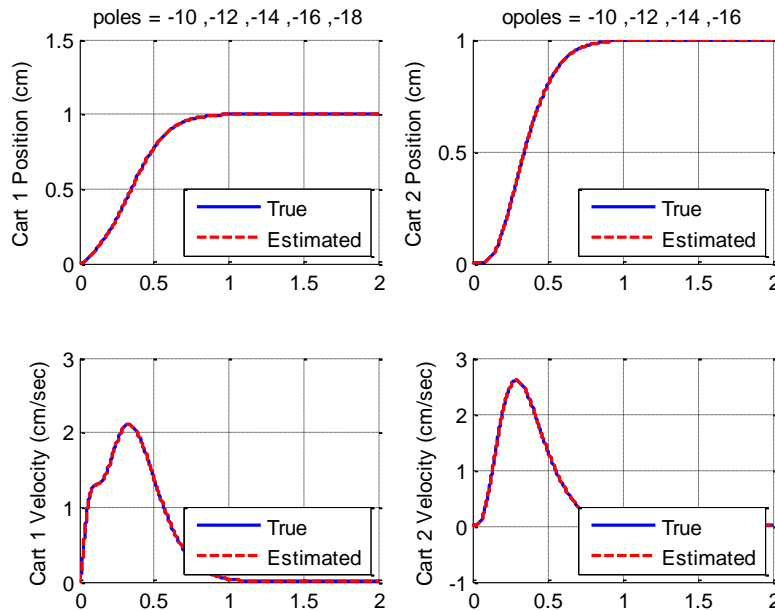

Figure 20: State feedback, full order observer, and integral control for a 2DOF system
- For an input of 1 cm, a final time of 2 seconds, set the state feedback poles at $p_s = [-10, -12, -14, -16, -18]$, the observer poles at $p_o = [-10, -12, -14, -16]$, the output of the system is the position of the second cart and the input to the observer is the position of both carts, you should get a graph like that in Figure 20.